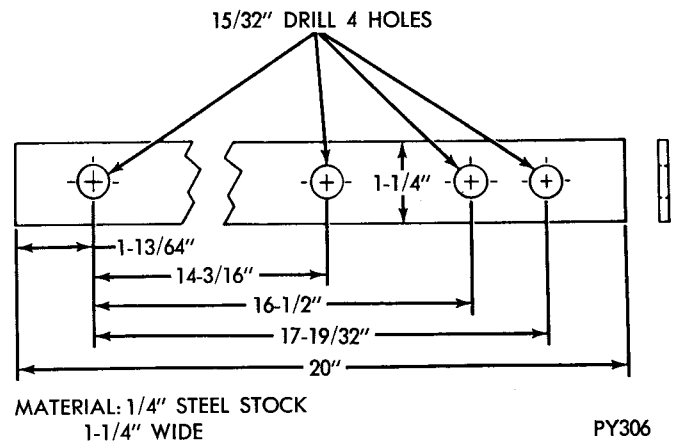
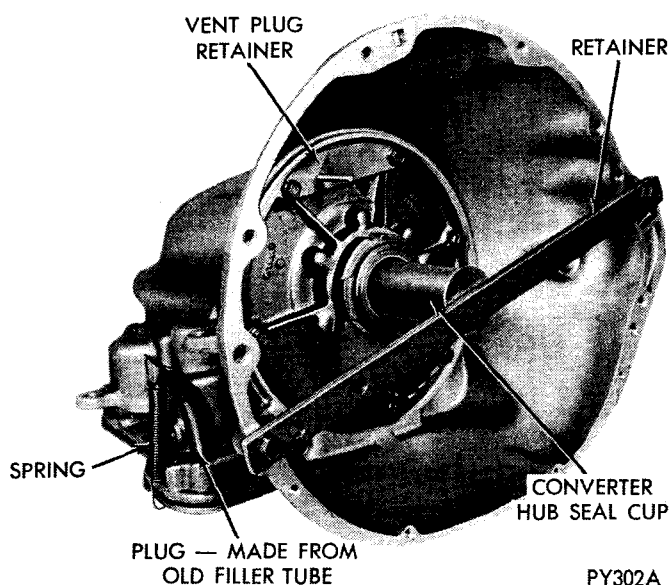

Fig. 8—Hub Seal Cup Retaining Strap
Fig. 10—Transmission Prepared for Test
- (1) Install filler tube bore plug, propeller shaft yoke (tie in with cord or wire), flared tube fitting cap (on front cooler line fitting), and pipe nipple (in case at rear cooler line fitting) (Fig. 10 and 11).
- (2) Remove necessary front pump housing bolts, and vent shield. Install vent plug (rubber stopper), and vent plug retainer preferably using longer bolts than those removed.
- (3) With rotary motion, install converter hub seal cup over input shaft, and through the converter hub seal until the cup bottoms against the pump rotor lugs. Secure with cup retainer strap (Fig. 8), using converter housing to engine block retaining bolts.
- (4) Attach and clamp hose from nozzle of Tool C-